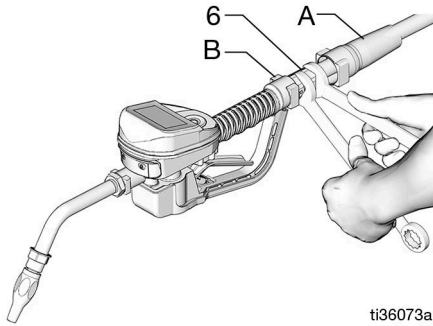

FIG. 7
2. Slide the swivel boot (A) back, over the hose, small end first to access the swivel fitting (6) (FIG. 7).
3. Apply thread sealant to the male threads of the hose fitting. Thread the hose fitting (B) into the metered dispense valve swivel (6). Use two wrenches to tighten securely (FIG. 7).